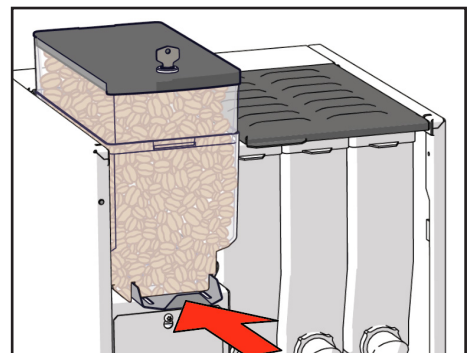

Figure 62. Re-insert the slide
8. Fully re-insert the slide (see Figure 62).